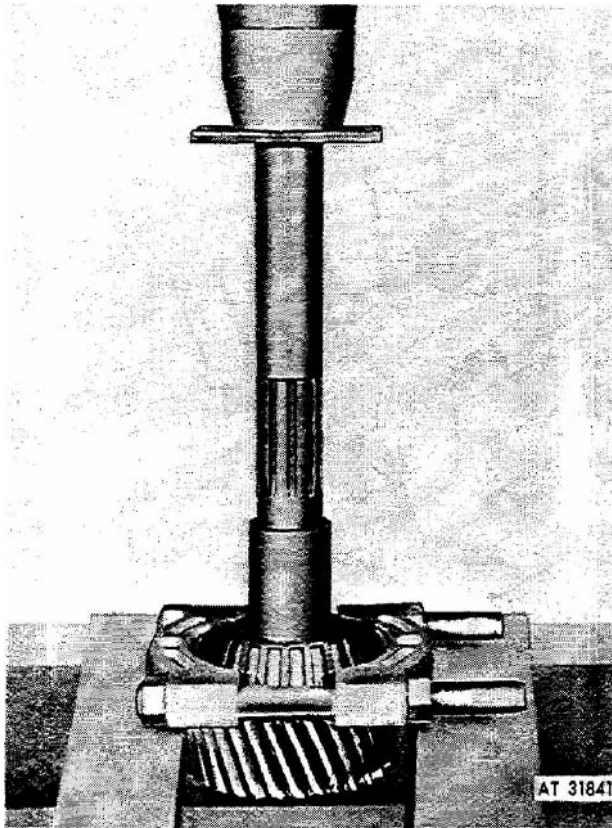

Figure 345. Pressing bearing from transfer output shaft.
(10) Press output shaft (8) from housing (12) and remove bearing cup of bearing (9), bearing (13), and seals (14 and 15) from housing.
(11) Remove spacer (10) from output shaft (8) and press bearing (9) from shaft (fig 345).